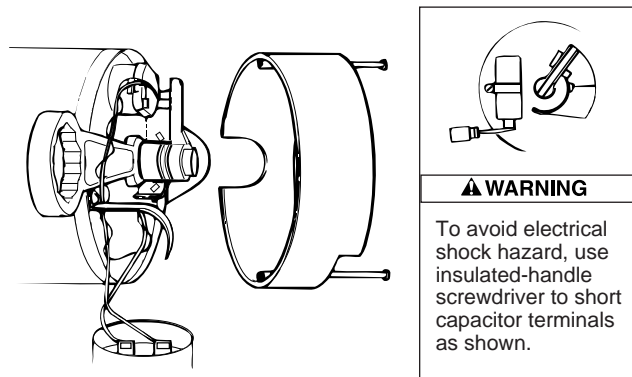

Figure 16 – Hold Shaft
2. If impeller must be replaced, loosen two machine screws and remove motor canopy (see Figure 16).
3. **WARNING** Capacitor voltage may be hazardous. To discharge capacitor, hold insulated handle screwdriver **BY THE HANDLE** and short capacitor terminals together (see Figure 16). Do not touch metal screwdriver blade or capacitor terminals. If in doubt, consult a qualified electrician.